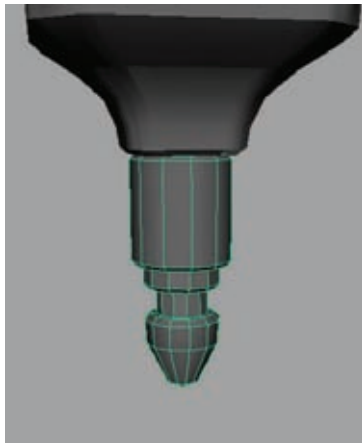

Figure 6.10
17. You can use the same process to create another decorative piece at the base of the sconce as well, or you can create a cylinder and use a series of Extrudes and Bevels to get the results you want. With whichever process you decide to use, make sure to create it with the same style as the one on top of the sconce so that they match stylistically. You can see how mine looks in Figure 6.10.